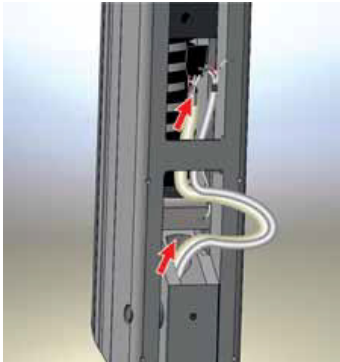

Figure 67
- Take the other end of the scissor arm cable and route it from the bottom of the horizontal arm outer cover till it comes out from the arm as shown in the Figure 67 & Figure 68. Make sure that the cables are inserted in between the outer cover and the internal plastic sheet(not visible in the figure).